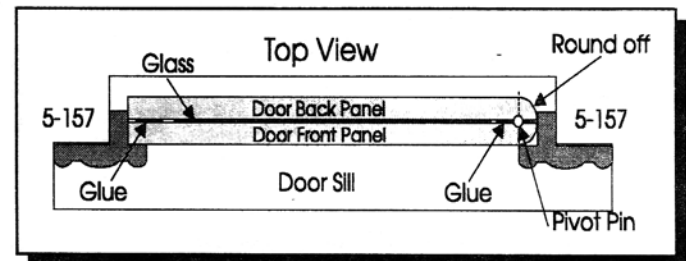

Figure 21
3. Round hinge edge of door with sandpaper or file so door will open properly. Tape a 5-157 to each side of the door assembly. Center the Door Sills on the top and bottom of the door as shown in Figure 21. The Brad will need to be hammered through the Bottom Door Sill and reinserted from the bad side for proper Brad location. Hammer brads in place.